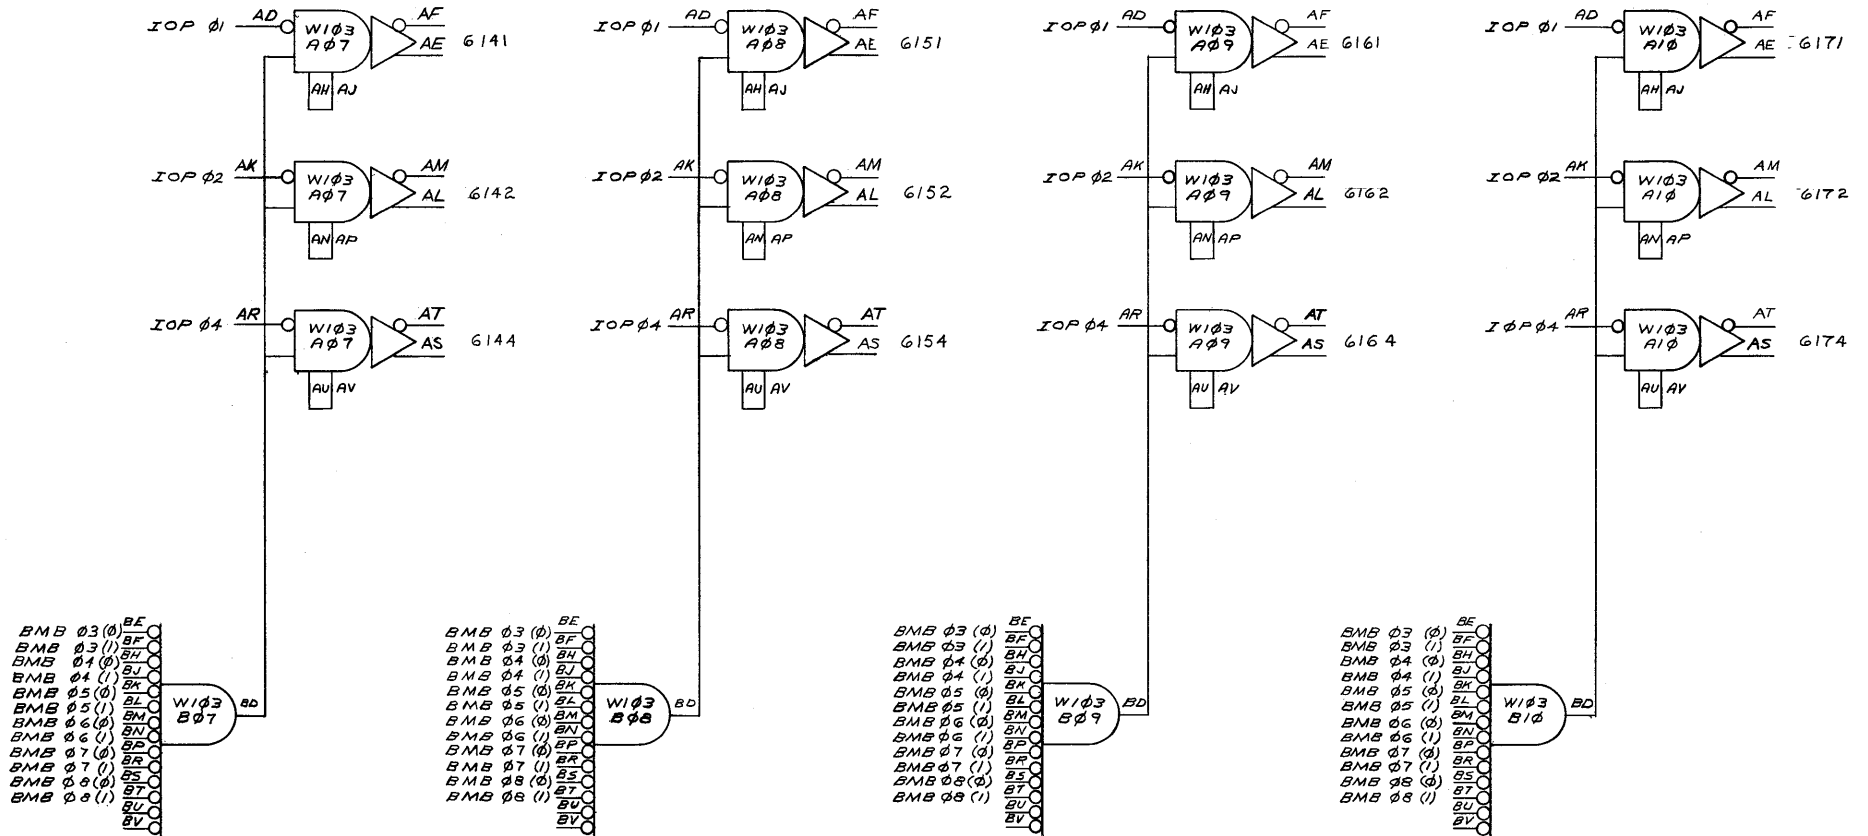

Figure 6-5 B-BS-AF16-0-4 Chrom and LOC, IOT Decoding Block Schematic Diagram
- Figure 6-5 Chrom and LOC, IOT Decoding Block Schematic Diagram (B-BS-AF16-0-4)